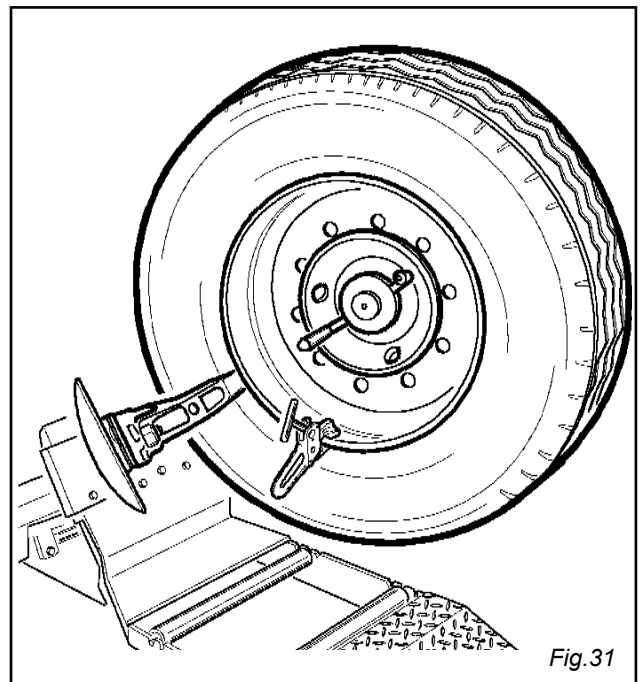

Fig. 31
- 15) Turn the spindle clockwise until the g-clamp is in its lowest point (6 o'clock). Second bead be set in position, too. (fig.31)